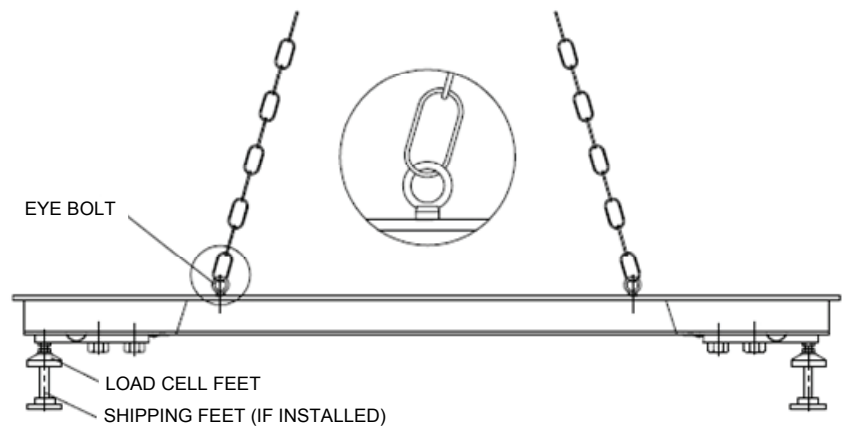

Figure 1. Hoisting Method.
2. Install the two included eye bolts into holes in top of platform. (See *Figure 1.*)